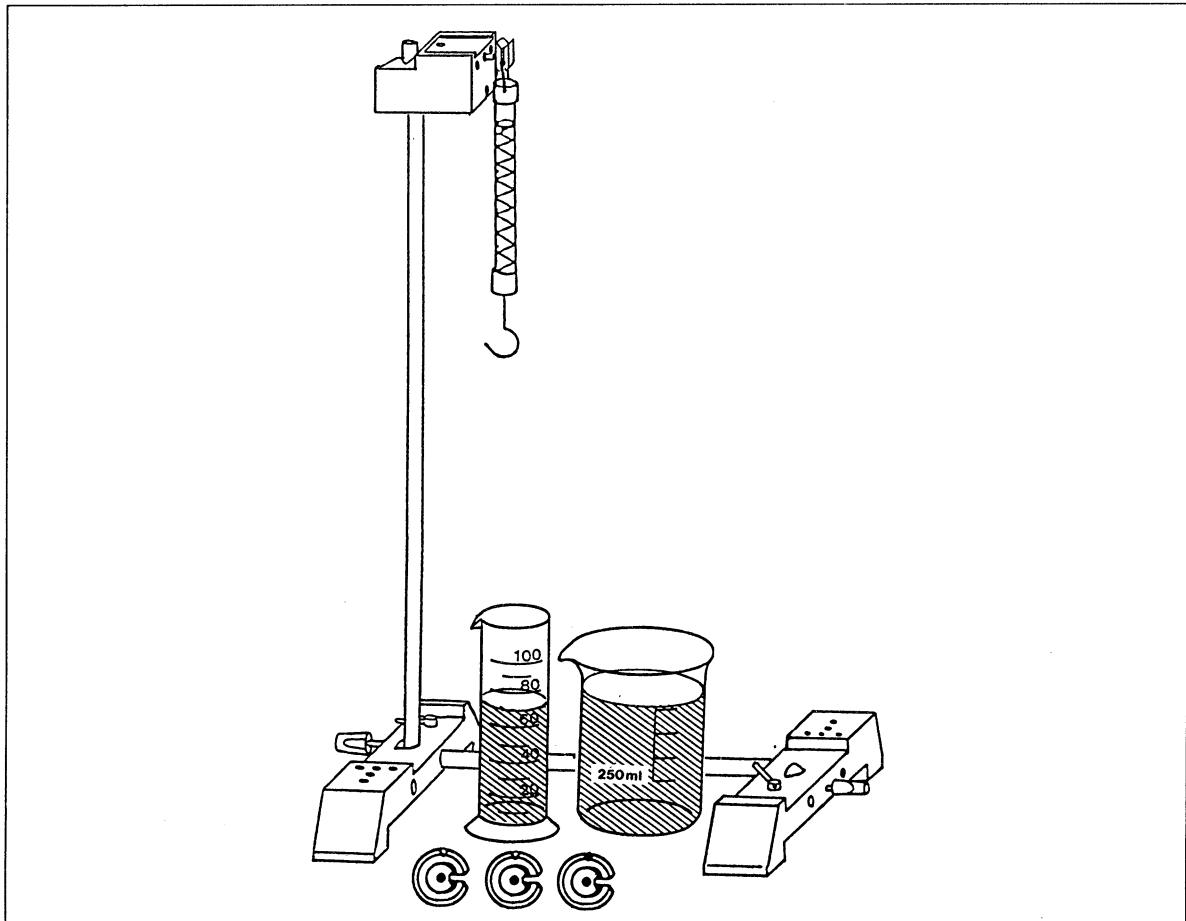

Fig. 1 Setup for determining buoyancy force.
1. Set up the stand as shown in fig. 1